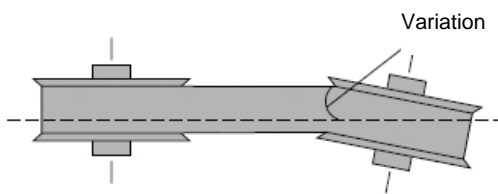

Fig. 10-6 Angular misalignment
10.- Adjust motor position to correct misalignment (Figs. 10-6 and 10-7).
Generally, the tolerance in pulley alignment in V-belt drive transmissions may not be greater than 0.5 degrees or 5 mm for each 500 mm of distance between centres (Figs. 10-6 and 10-7).